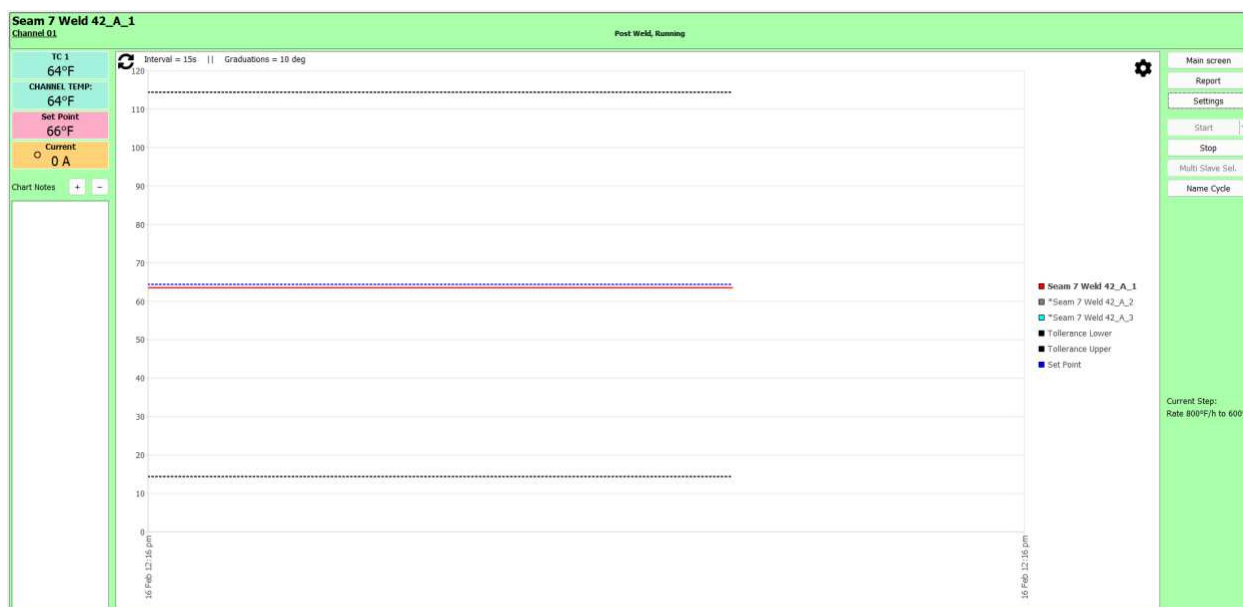

Figure 45: Data Window - Chart View
3. **‘Chart’ view:** Figure 45 below is a visual example of what the Chart View looks like when the system is running. Changing the Data Window over to the Chart View allows an operator to see highly detailed visual process information about the current cycle.